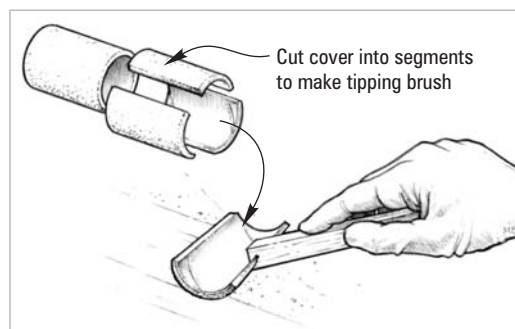

Figure 9-24 Tip off the fresh coat of epoxy with the grain, using a foam roller brush to remove bubbles and roller marks.
8. Drag a foam roller brush lightly over the fresh epoxy in long, even, overlapping strokes after each full batch is applied. Use enough pressure to smooth the stipple, but not enough to remove any of the coating (*Figure 9-24*). Alternate the direction in which each coat is tipped off, 1st coat vertical, 2nd coat horizontal, 3rd coat vertical, etc. A WEST SYSTEM 800 Roller Cover can be cut into segments to make a tipping brush.